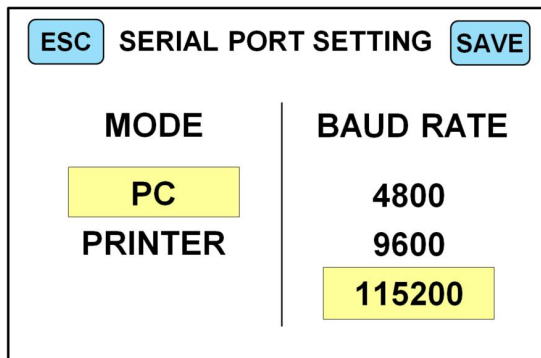

Figure 61
3) In the "SERIAL PORT MODE" interface, first touch select “**PC**” in the MODE column on the left, and then touch 4800, 9600 or 115200 to select the corresponding baud rate according to the actual situation of the external device. The factory default baud rate of the machine is "115200". After the selection is complete, click “” on the upper right corner to save, as shown in Figure 61 below.